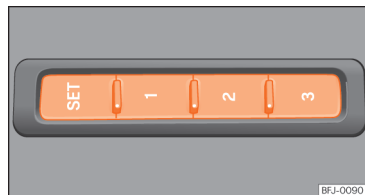

Fig. 79 On the outer side of the driver seat: memory buttons.
- Press **SET** for longer than 1 second »» Fig. 79.